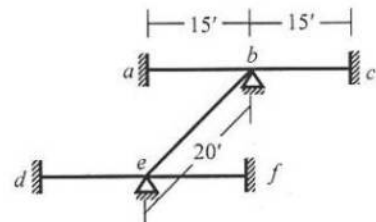

Fig. 4
4. For the grid loaded as shown in *Fig. 4*, use the stiffness method to calculate the rotations at joint C [Given, $EI = 40 \times 10^3 \text{ k-ft}^2$, $GJ = 30 \times 10^3 \text{ k-ft}^2$].
4. Formulate the stiffness matrix of grid *abcdef* shown in Fig. 4